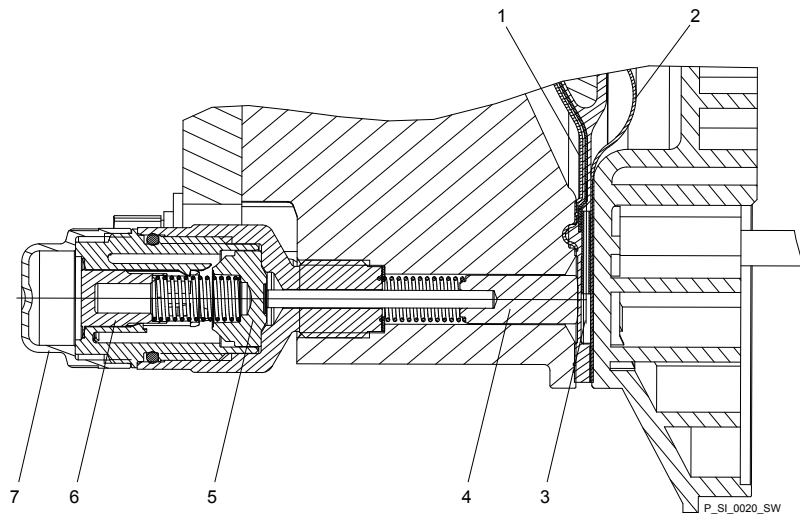

Fig. 22: Section through the Sigma diaphragm rupture warning system ("Visual break indicator" version)
2. ➤ If the piston of the diaphragm rupture sensor - see Fig. 22, item 4 - should have become dirty or damp, clean both it and the hole in which it runs.